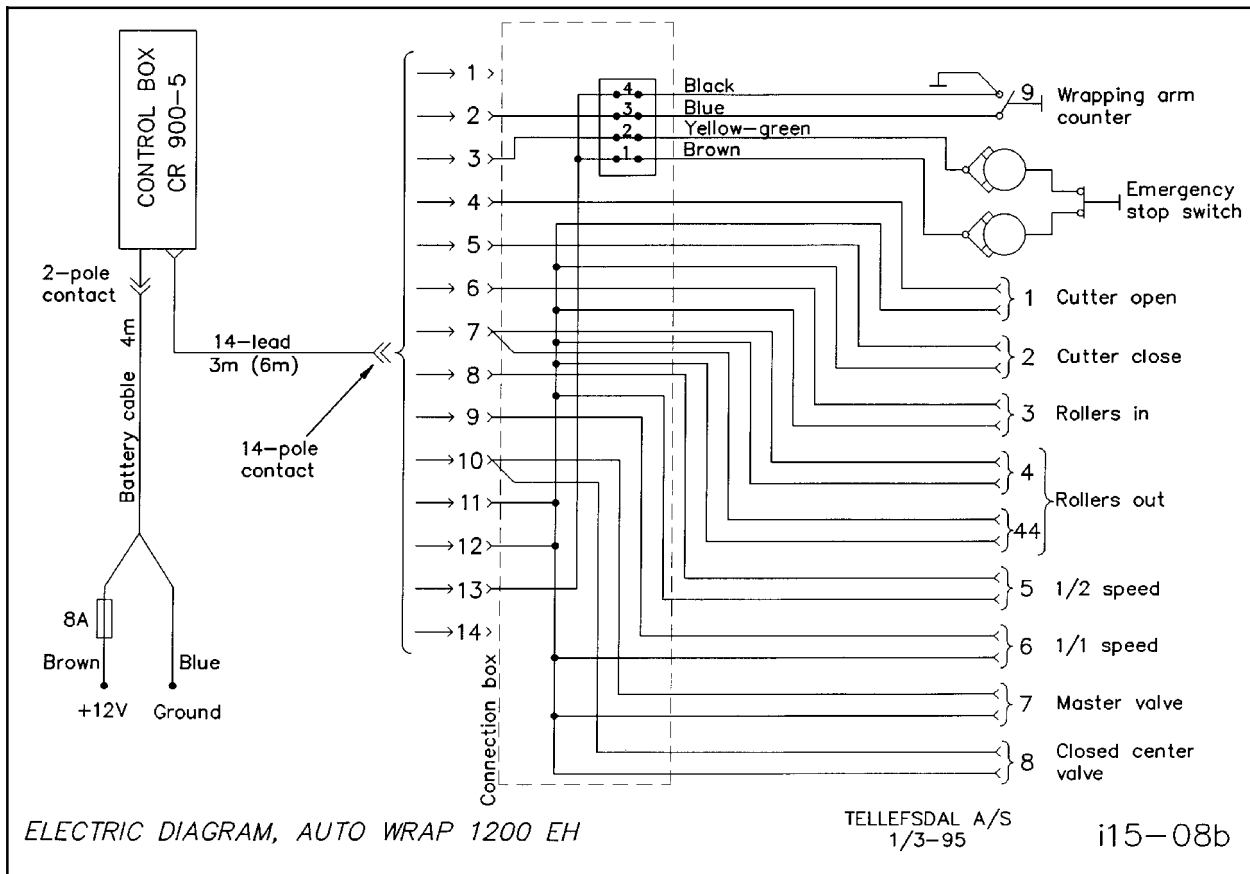

Fig. 13-1
The electric system consists of a remote control unit with supply line, control cable, (14-lead), with plug in both ends, and distributing lines to the different magnet valves and switches on the machine. (See fig. 13-1).
13.4 DISTRIBUTION OF POWER. (See fig. 13-1).